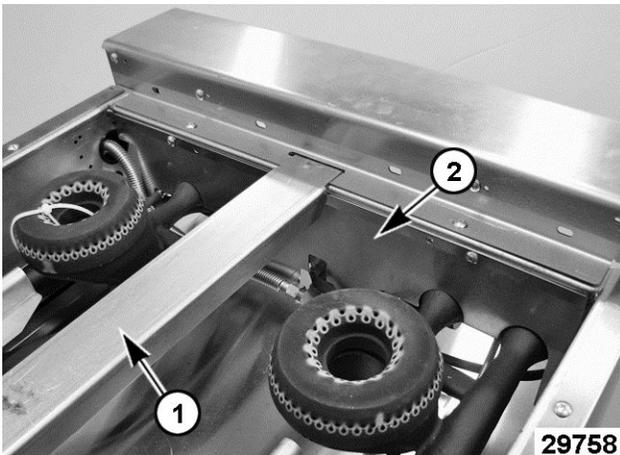

Fig. 86
4. Lift grate support (1, Fig. 86) from range top.
5. Remove heat shield (2, Fig. 86).